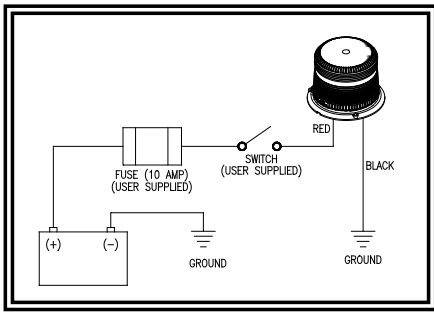

Figure 3
- Connect the power wires as shown in the wiring section (see Figure 3).
The wiring for this configuration is as shown in Figure 3 below. All wiring should be a minimum of 18AWG. The positive line must have a 10 amp fuse, as shown. A switch may be used to control the on/off function.